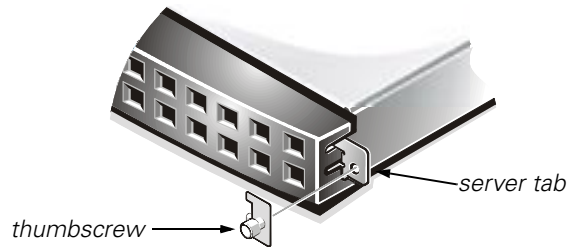

Figure 1-9. Installing the Tab Cover
2. Center the thumbscrew on the tab cover with the clearance hole on the system tab, and align the slot on the tab cover with the opening on the system tab (see Figure 1-9).